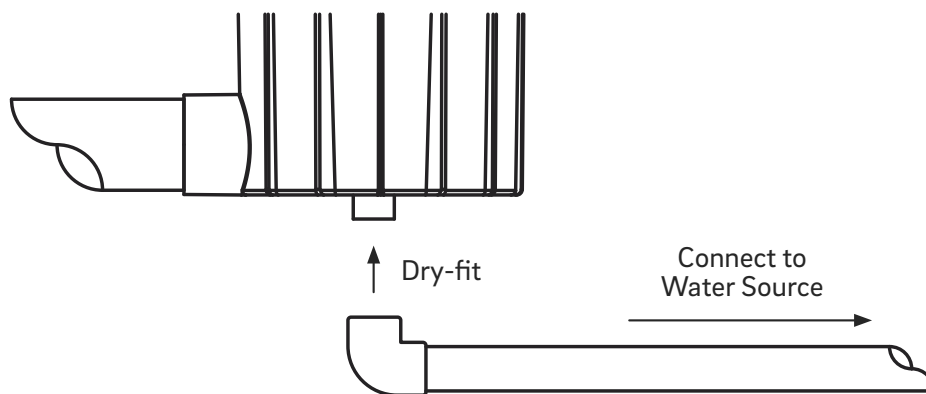

Figure 6
3. Now configure the supply line so that the pipe lines up with the pipe coming from the water source. Now glue the dry-fit 90° elbow in place (Figure 6).